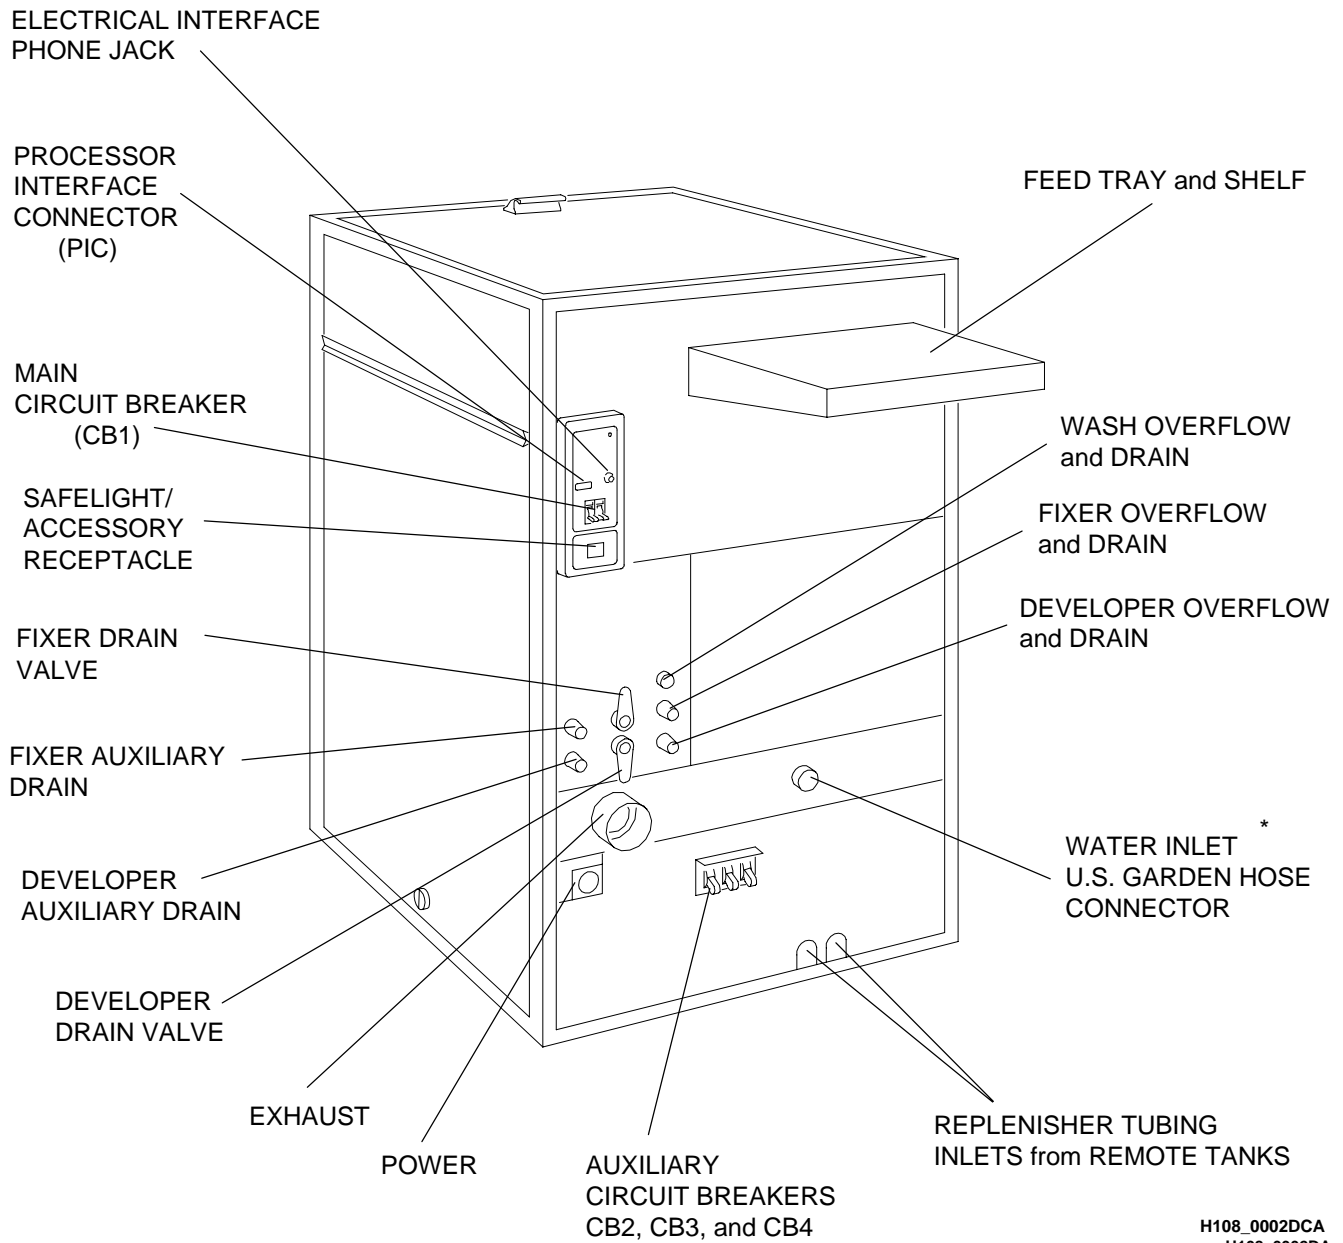

Figure 1-3 Major Components of Processor
- [1]** Move the MAIN CIRCUIT BREAKER, CB1, to the “O” position. See Figure 1-3 for the location of the CIRCUIT BREAKERS.